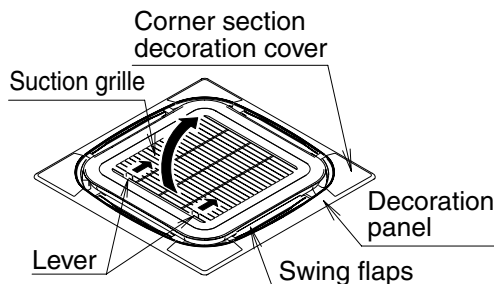

Fig. 1
(1) Remove the suction grille from the decoration panel.
- 1 Press the lever on the suction grille and lift the lever side. **(Refer to Fig. 1)**